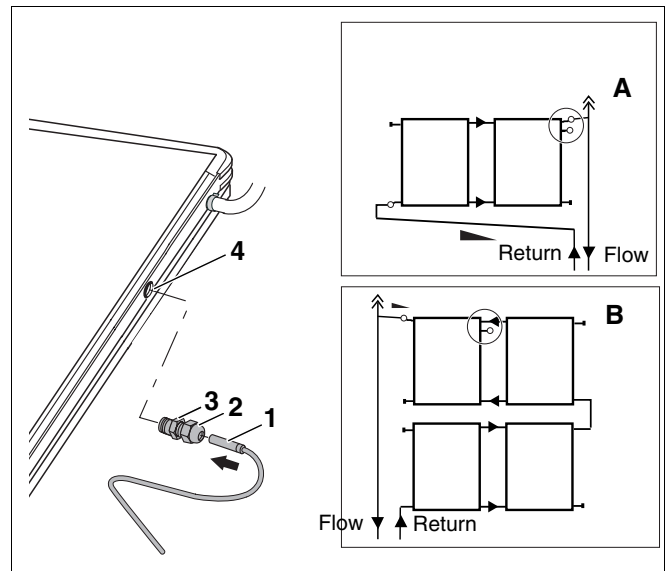

Fig. 46 Collector sensor connection
- Insertion point (Fig. 46, **Item A**) for single row collector systems.
- Insertion point (Fig. 46, **Item B**) for dual row collector systems.
- ▶ Insert the collector sensor (Fig. 46, **Item 1**) through the compression fitting (Fig. 46, **Item 2** and **3**) and push the collector sensor approx. 170 mm until it reaches the end of the sensor pocket (Fig. 46, **Item 4**).
- ▶ Thread the bottom part of the compression fitting (Fig. 46, **Item 3**) into the sensor pocket thread (Fig. 46, **Item 4**).
- ▶ Tighten the compression fitting (Fig. 46, **Item 2** and **3**).